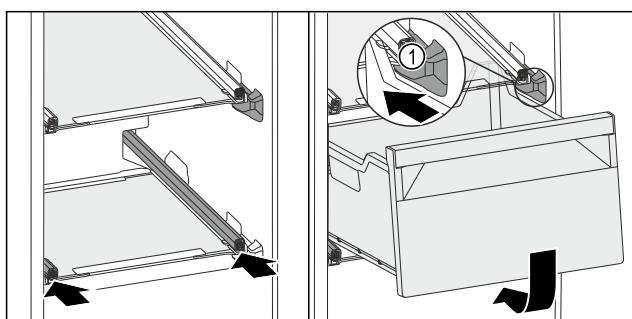

Fig. 140
- ▶ Guide drawer around the stoppers Fig. 140 (1).